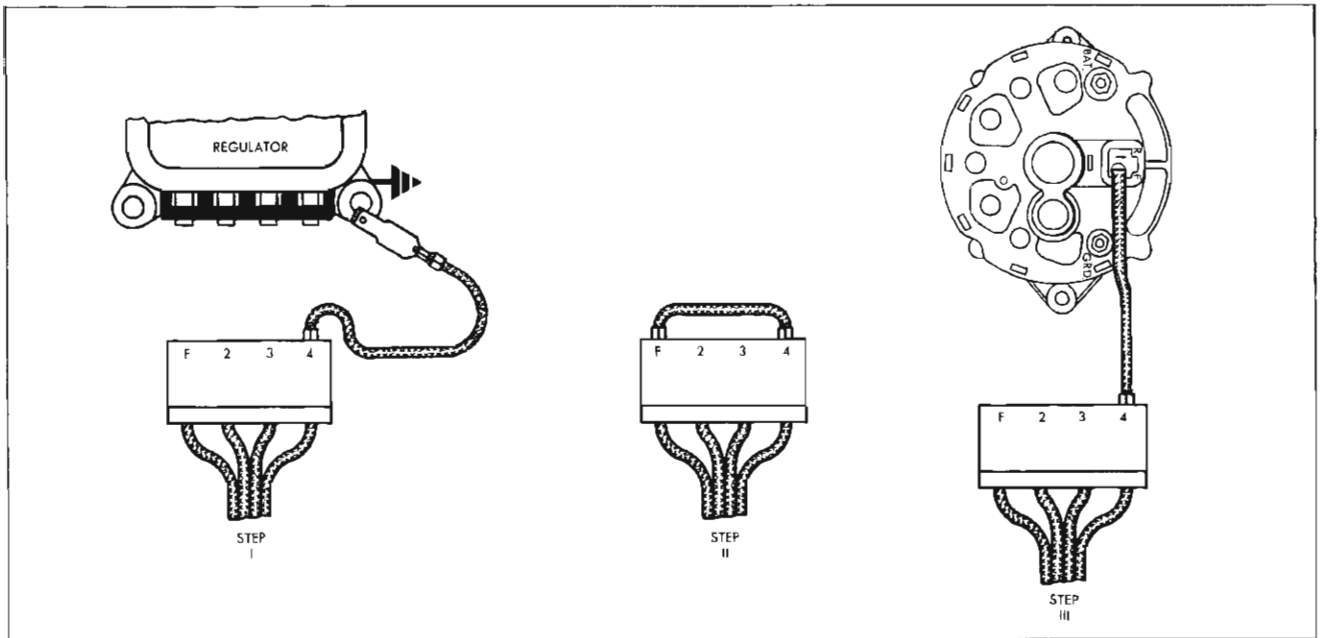

Fig. 13—Indicator Lamp Circuit Tests
The indicator lamp circuit (fig. 13) provides initial field excitation (causing lamp to glow). The light is cancelled by closing the field relay which applies battery voltage to both sides of bulb (bulb goes out).
1. Disconnect connector from regulator and connect a jumper lead from connector terminal "4" to ground (Figure 13, Step 1).
3. Disconnect jumper lead at ground end and connect between connector "F" and "4" terminals, (Figure 13, Step 2) then turn switch to "ON" momentarily and note lamps:
4. Disconnect jumper at connector "F" terminal and connect to "F" terminal on Delcotron (Figure 13, Step 3), then turn switch on momentarily and note lamp:
The field circuit (fig. 13) provides initial field exc-
3. Disconnect jumper lead at ground end and connect between connector "F" and "4" terminals (Figure 13, Step 2) then turn switch to "ACC" (with accessories off) momentarily and note ammeter.
4. Disconnect jumper at connector "F" terminal and connect to "F" terminal on Delcotron (Figure 13, Step 3), then turn switch to "ACC" (with all accessories off) momentarily and note lamp: